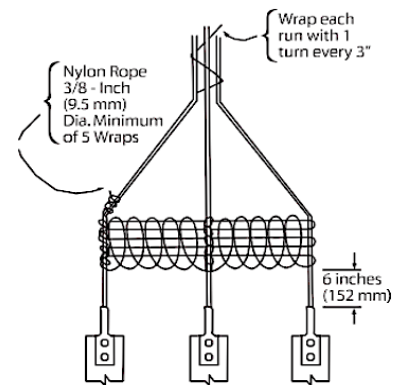

Figure 4-12 Lashing Diagram for 65kA Short-Circuit Rated Switchboards.
- From the switchboard entrance to the point where the cables are laced together, each cable run must be wrapped with 1 turn every 3 inches. Support must be provided to the cables at points where they lace into terminals, as shown in **Figure 4-12**. They should be installed 6" from the terminals and every 12" beyond that point.